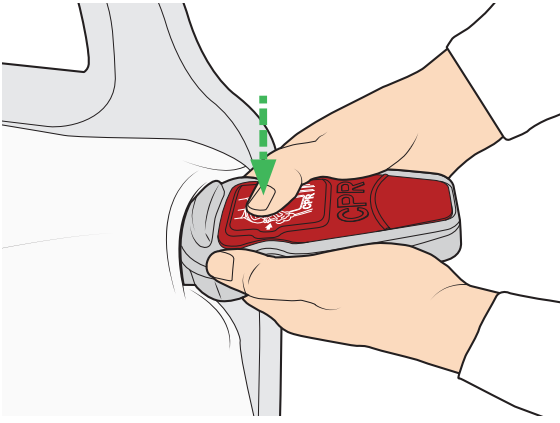

Figure 33
9. Make sure that the CPR rapid deflation unit is in closed position (see Figure 33). The CPR rapid deflation unit must be accessible at all times.